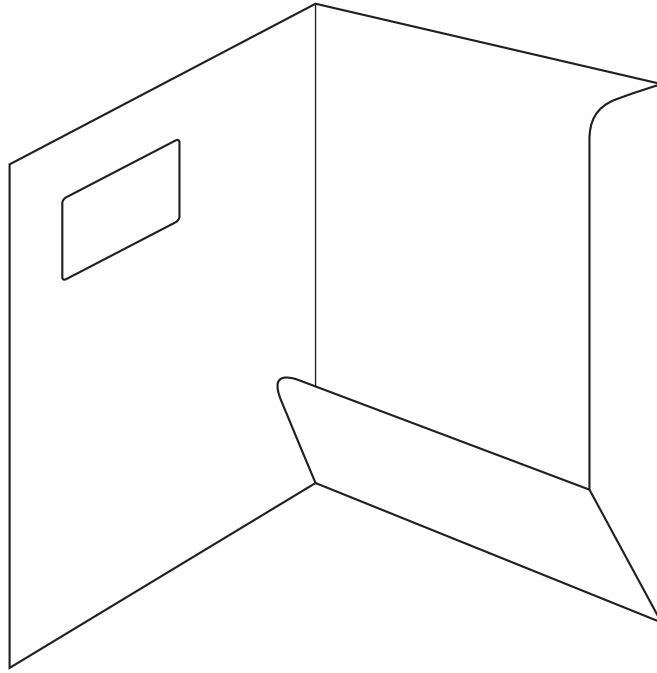

Fig. 5
Fig. 5 shows an A4 folder used for promotional literature.
(a) Give **four** justified design requirements for the promotional A4 folder shown in Fig. 5.
- (e) (i) State a **suitable specific material** for the promotional A4 folder shown in Fig. 5 and give **two** properties or characteristics that make the material suitable for this use.
- (ii) Describe, in detail, how the promotional A4 folder shown in Fig. 5 would be manufactured as a batch of 50,000. Include details of specific equipment used.